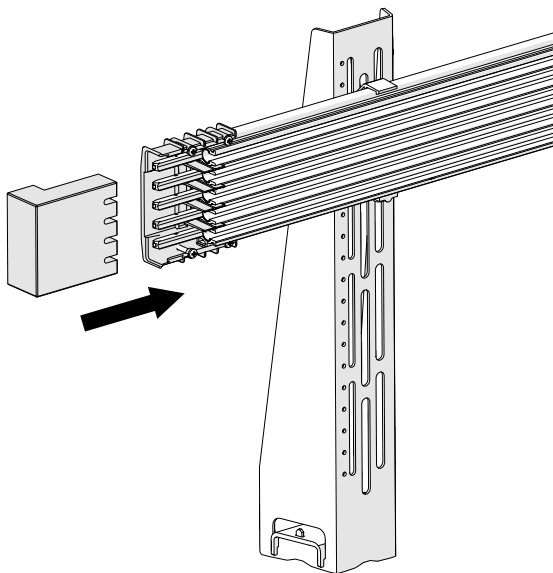
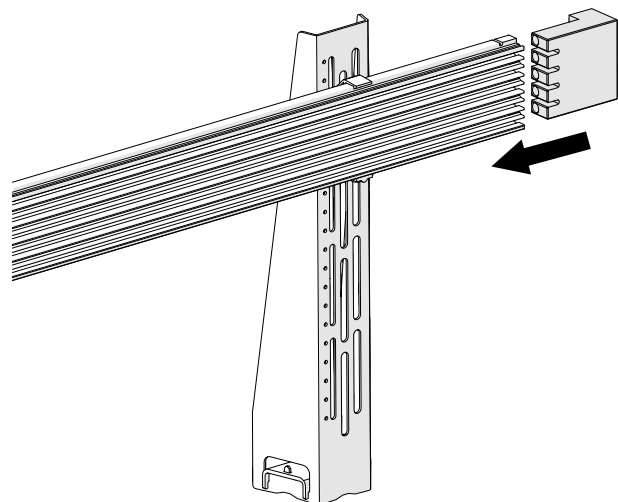
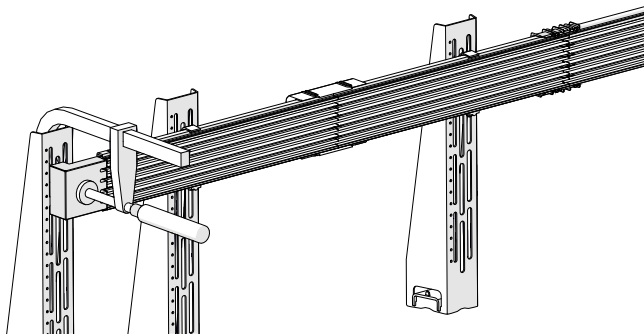

Fig. 16: Slide the mounting block onto the connector pins
Fig. 17: Use mounting block at the other rail end
Fig. 18: Mounting block (Order Number: 08-V015-0492-00x) fasten with a screw clamp
Always use the mounting block (08-V015-0492-00x) and a rubber hammer when assembling (see Fig. 16, Fig. 17 and Fig. 18)!
- Install the mounting block (Order Number: 08-V015-0492-00x) in front of the conductor rail with a screw clamp (see Fig. 18).
1. Push the connector side manually over the open rail end until it stops (see Fig. 16).
→ Remove mounting block (see Fig. 18).